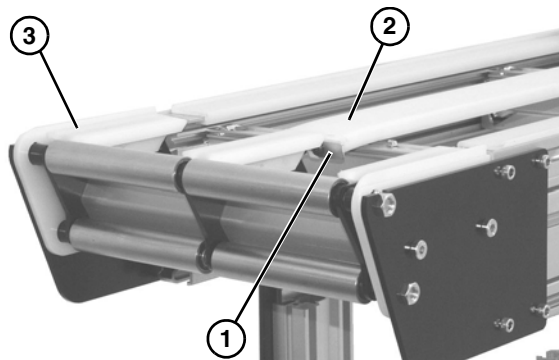

Figure 5
The stop plate (**Figure 5, item 1**) on the center wear strip (**Figure 5, item 2**) faces the idler end (**Figure 5, item 3**) of the conveyor.